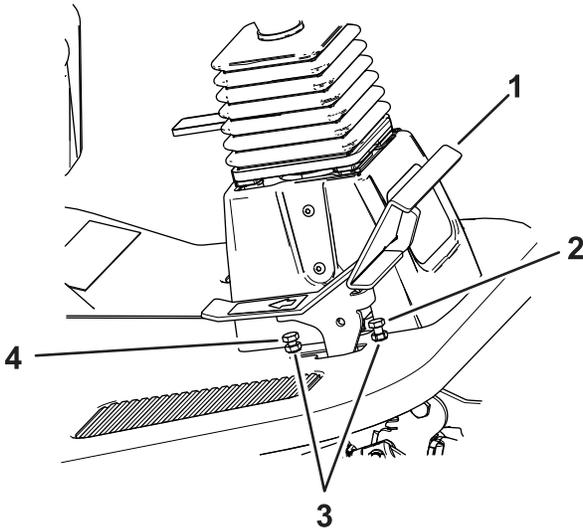

Figure 80
1. Move the traction pedal fully forward (Figure 80).
- A. Using a wrench, hold the forward traction-pedal stop and loosen the jam nut on the back side of the bracket (Figure 80).
- B. Move the traction pedal to the desired position (Figure 80).
- C. Adjust the jam nut on the back of the bracket until traction-pedal stop contacts the traction pedal (Figure 80).